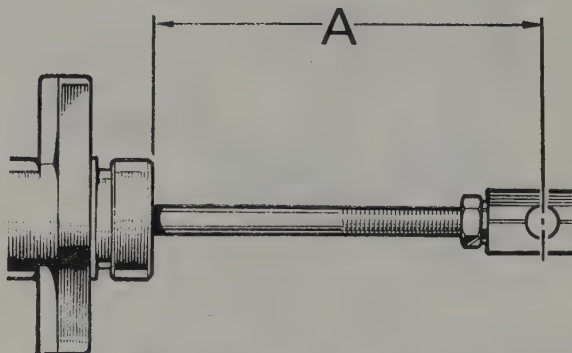

Fig. 5.2. Master cylinder push-rod setting diagram
- 8 Refitment is a reversal of removal but the length (A) of the pushrod (fully extended) must be reset to 4.750 in. (120 mm) as shown in Fig. 5.2.